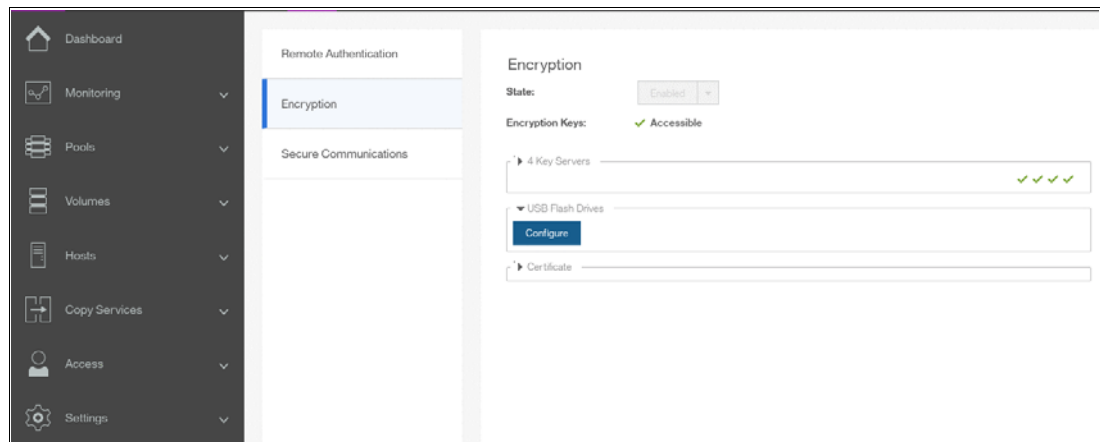

Figure 13-57 Enable USB flash drives as a second encryption key provider
1. Go to **Settings** → **Security** → **Encryption**, expand the *USB Flash Drives* section and click on **Configure**, as shown in Figure 13-57. Please note, that to enable USB flash drives as a second provider, the system has to be able to access key servers with the current master access key.